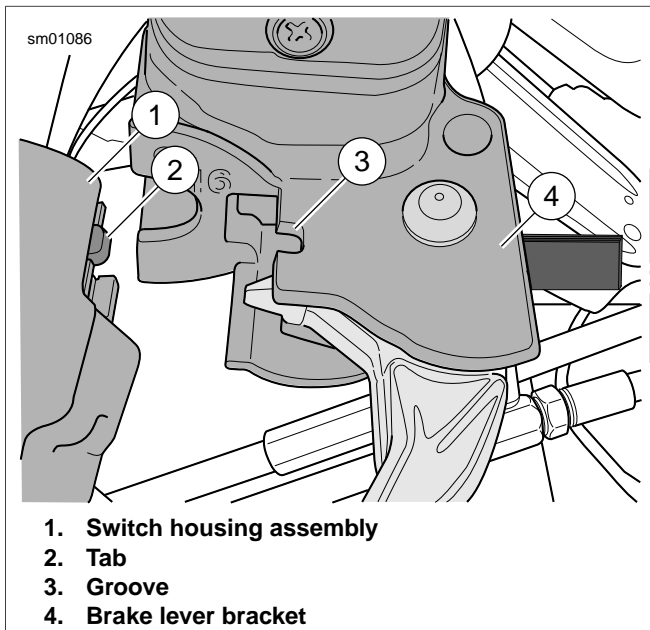

Figure 7-89. Switch Housing Alignment (typical)
9. See Figure 7-89. Position the brake lever/master cylinder assembly inboard of the switch housing assembly, engaging the tab (2) on the lower switch housing in the groove (3) at the top of the brake lever bracket.